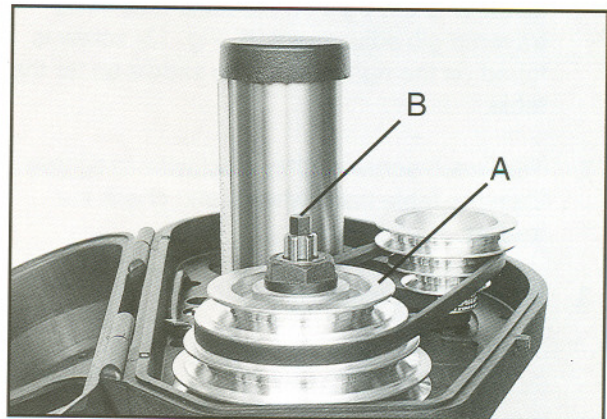

Fig. 12
3. Hold the spindle pulley (A, Fig. 12) with one hand (to keep the pulley from moving) while loosening the drawbar (B, Fig. 12) with the other using a wrench.